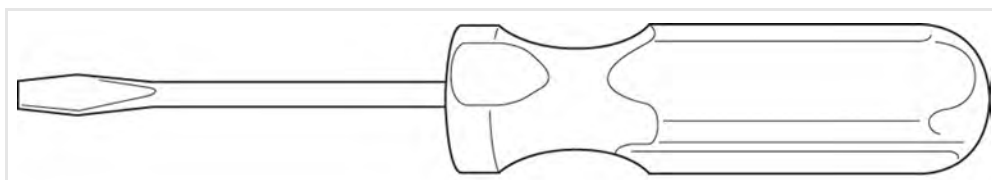

Figure 2.30: Screwdriver needed to Install the CATC SYNC Expansion Cards
2. Using a flat-head screw driver (Figure 2.30), loosen the two retaining screws.